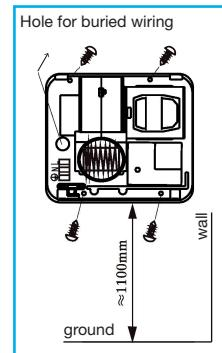

Figure 3
- Secure the dryer body to the wall using the provided screws (see Figure 3). For embedded installation, pass the power cord through the specific hole beforehand and connect it to the internal connector.